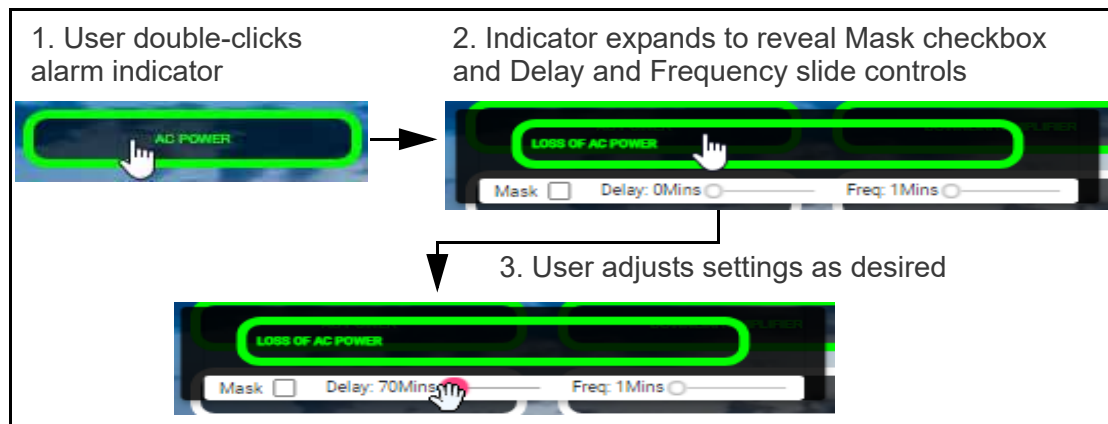

Figure 5-9 Accessing alarm configuration tools
As shown in Figure 5-9 below, the user can now configure the **Mask** checkbox and slide controls to set the **Alarm Delay** and **Frequency** of SNMP traps sent.
2. Double-click on the first alarm you want to edit. Activate the tools to adjust settings as shown in Figure 5-9.